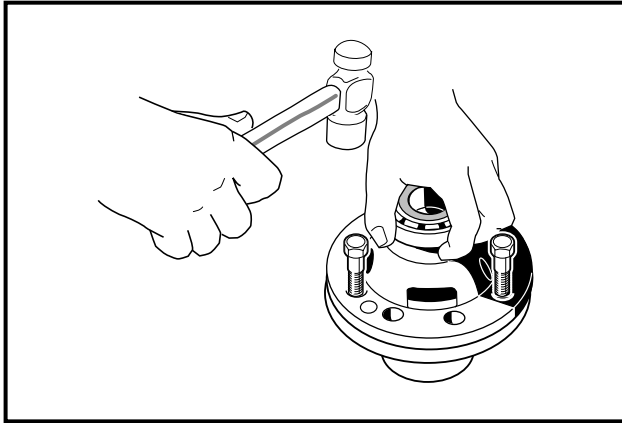

Figure 16a-14 Separate Housing
- 8.4. Remove the differential pin (31) by pushing pin through differential gear case from one side (Figure 16a-5, Page 16a-3). See also Figure 16a-15, Page 16a-9.
- 8.5. Remove the idler gears and thrust plates (1 and 2) (Figure 16a-16, Page 16a-9).